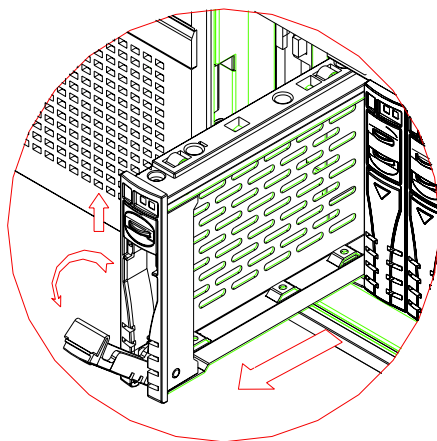

Figure 2.10 Pushing up the latch & removing the mobile tray
3. Press down the handle of the mobile tray and pull it out as far as it will go. Then completely take out the tray. (See Figure 2.10)